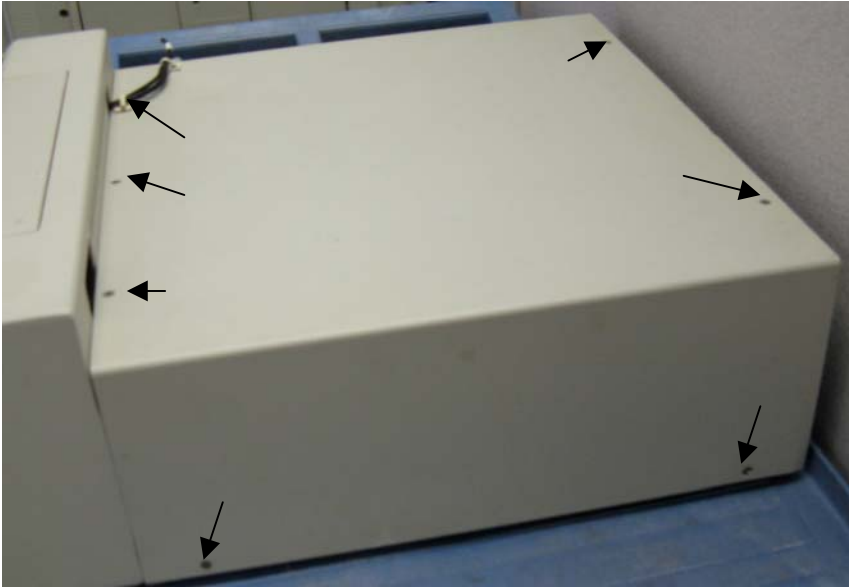

Fig. 1
- 1) Power the unit off, unplug power cord from system. Remove the screws from the top cover and set aside. *Figure 1*